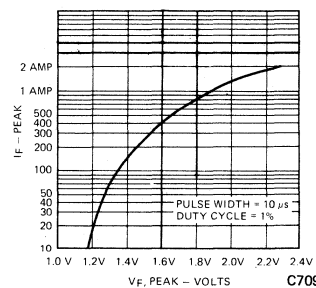

Fig. 3. I_F Peak Pulse Mode Characteristics
1. The curves in figure 3 are normalized to the power output at 25°C to indicate the relative efficiency over the operating temperature range.